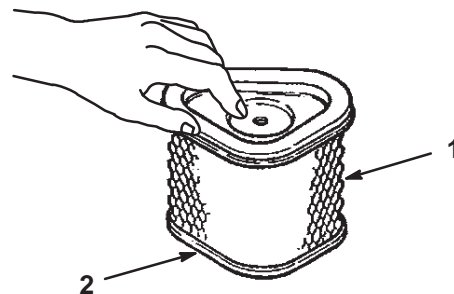

Figure 20
1. Lightly tap the element on a flat surface to remove dust and dirt (Fig. 20).